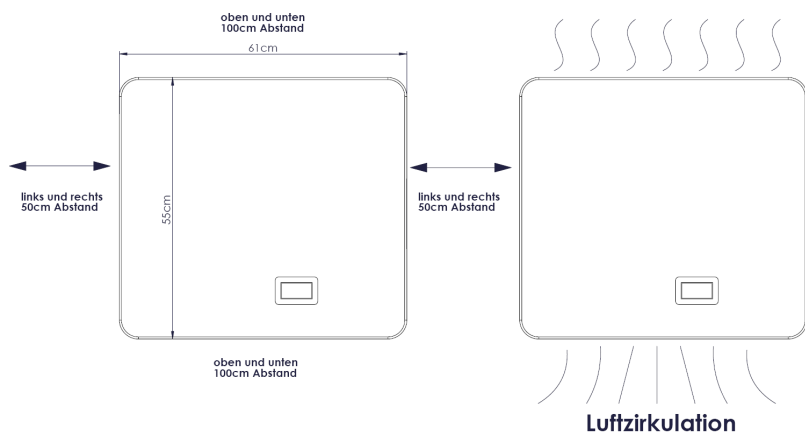

Fig. 7: Minimum distances around the device
- Observe minimum distances to the sides of the housing; see Fig. 7.
- 2. Determine the mounting position of the device. Check the observance of the minimum distances ( Fig. 7).